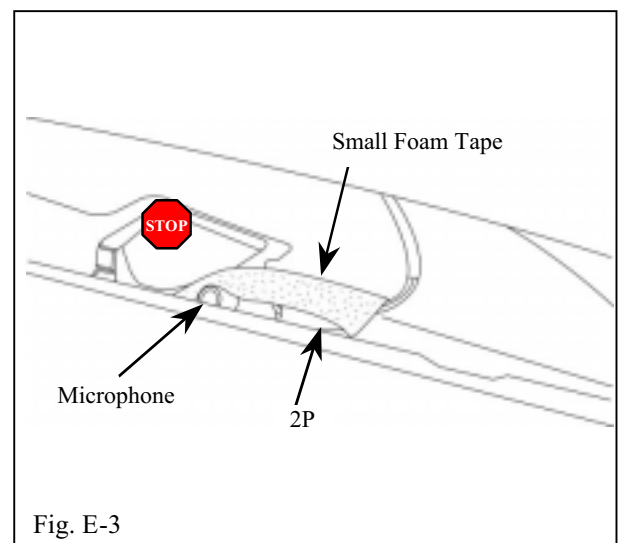

Fig. E-3
- 5. Secure the microphone and 2P connectors with one small strip of foam tape. (Fig. E-3)